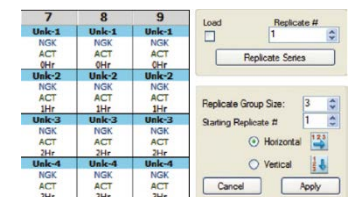

Figure 10. Replicate series figure from Bio-Rad Software Plate Quick Guide
4.18.2.1. Input replicate group size, starting replicate number, and orientation of loaded samples (horizontal/vertical) Fig. 10. Select Apply to set.